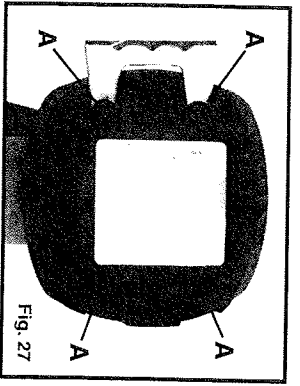

Fig. 27
2. Remove four top cover screws (A) Fig. 27, and lift off cover.